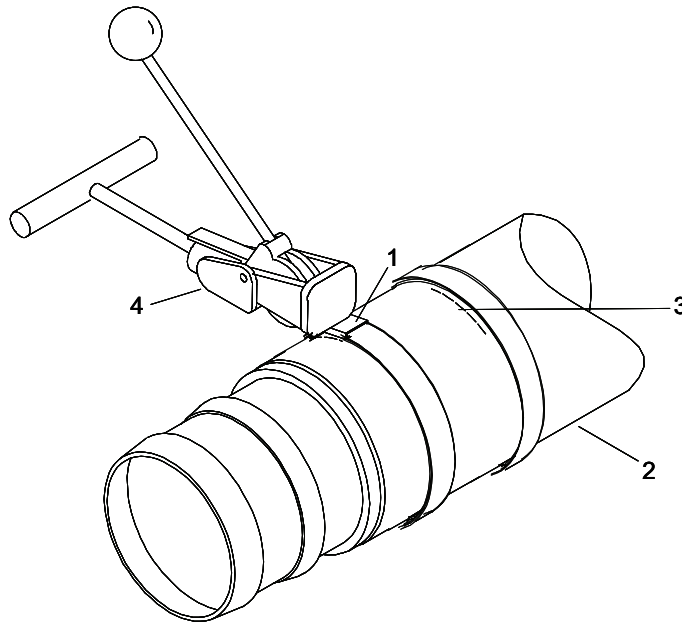

Figure 9. Hose Assembly Repair.
21. Position the first clamp (Figure 9, Item 1) on the hose assembly (Figure 9, Item 2) until it is aligned with the first mark (Figure 9, Item 3) previously made on the hose assembly.
22. Using clamping tool (Figure 9, Item 4), tighten the clamp (Figure 9, Item 1) until almost flush with the hose assembly (Figure 9, Item 2) surface.
24. Tighten clamp (Figure 9, Item 1) until the clamp (Figure 9, Item 1) cannot be tightened by hand any further.